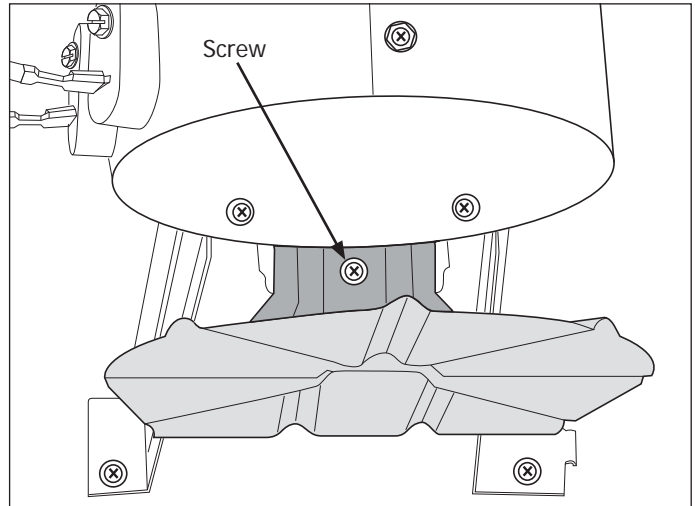

Figure 4-37.
2. Using a #2 square bit screwdriver, extract the screw securing the heat shield to the heater mounting bracket. (See Figure 4-37)